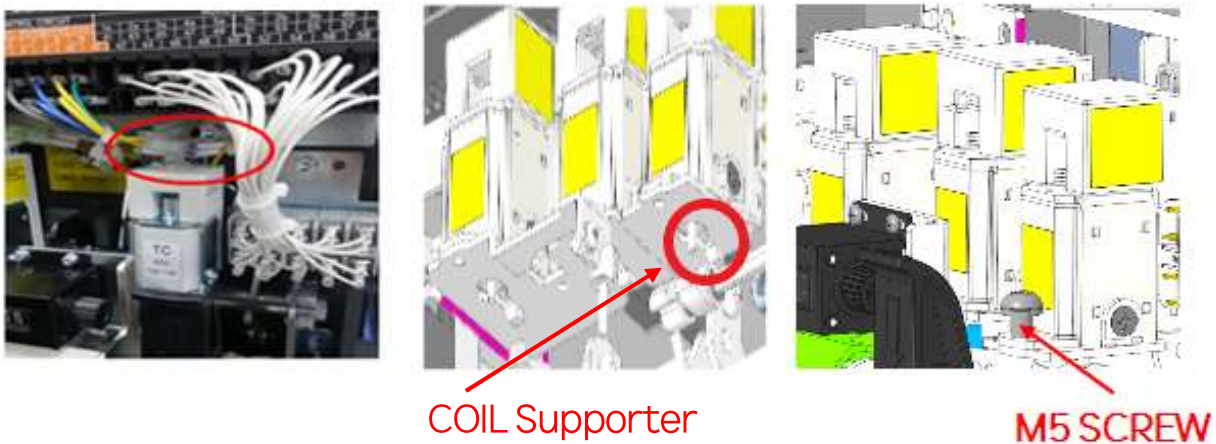

FIG 3
3. 그림에 보이는 것과 같이, coil supporter의 slot으로 bending plate를 삽입하시오. 그리고 M5 screw(나사) 조이며 고정시키시오.[Fig. 3]
3. As see the picture, insert bending plate of coil into the slot of coil supporter and then fasten it by screwing the M5 screw.[Fig. 3]
4. As see the picture, connect the control jack connector and coil connector.[Fig. 3]